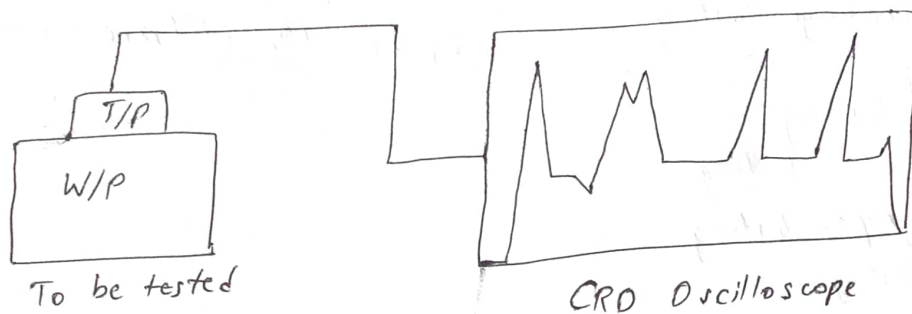

Fig. 1
- They are produced by piezo-electric discs in a probe. Then it is sent through the material to be tested as shown in (fig. 1).